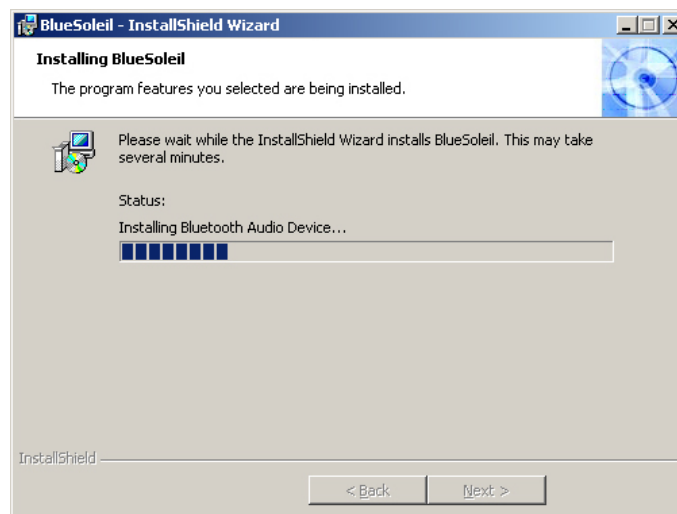

Figure 7-52: Installing BlueSoleil
Step 16: Click **INSTALL** to continue. The Installing BlueSoleil screen appears as the program is installed (Figure 7-52).